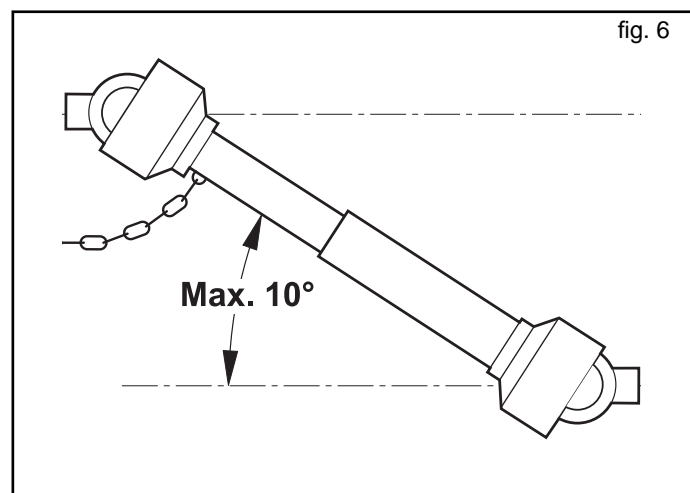

fig. 6
- 12) Always disconnect the power take-off when the Cardan shaft is at too wide an angle (never more than 10° - Fig. 6) and when it is not being used.